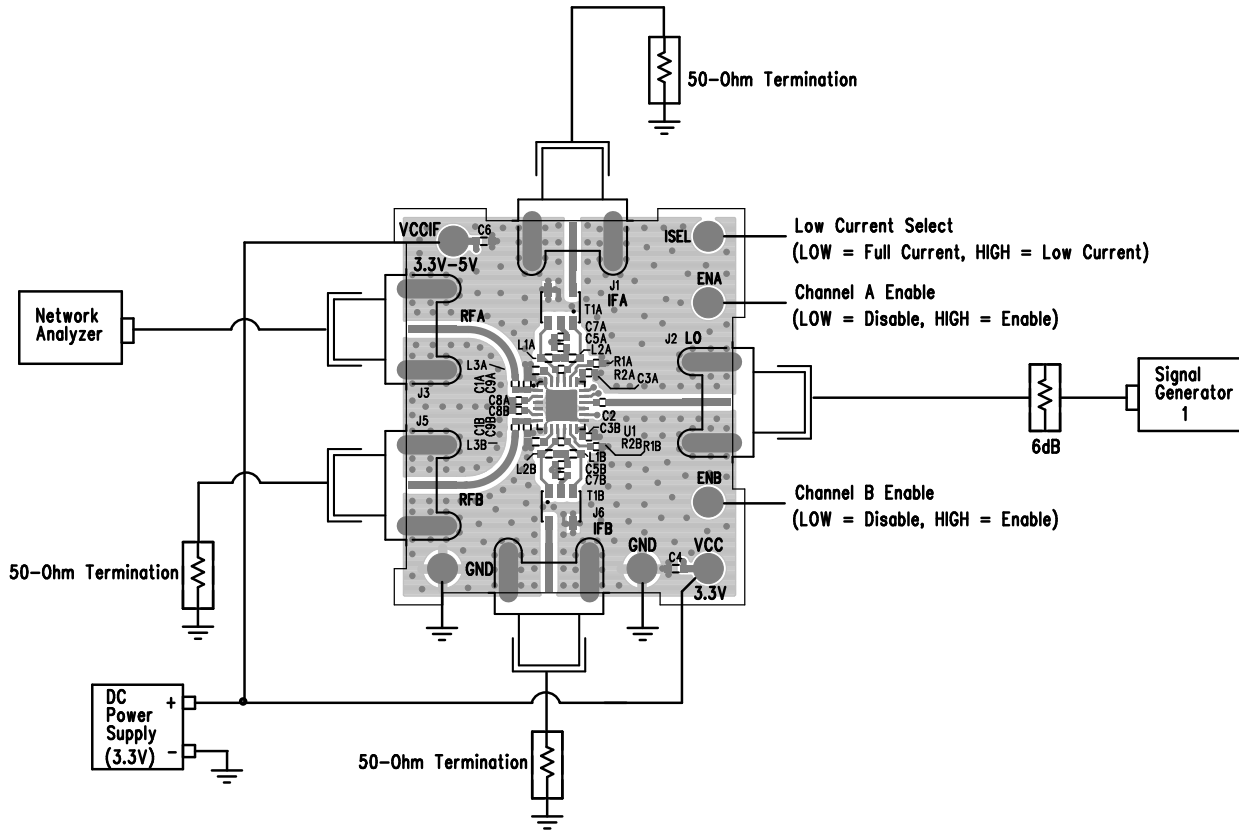
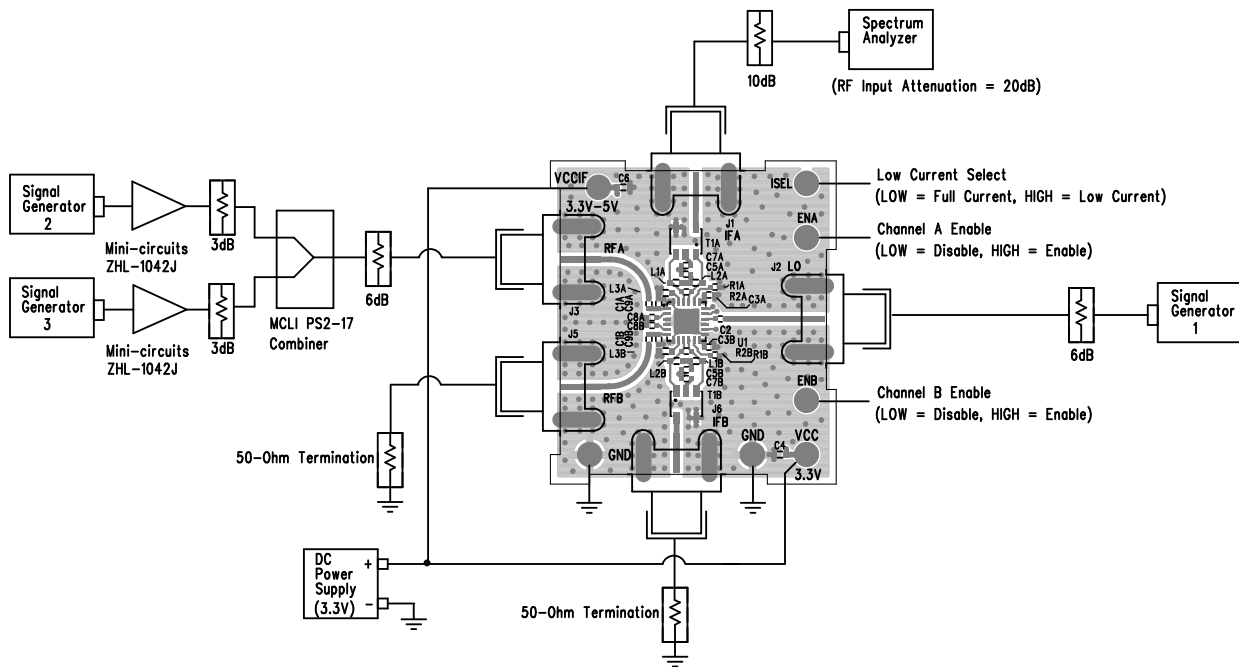

Figure 5. Proper Equipment Setup for Return Loss Measurements
Figure 6. Proper Equipment Setup for RF Performance Measurements
The LTC5592 is a dual high dynamic range downconverting mixer IC with very high input 3rd order intercept. Accuracy of its performance measurement is highly dependent on equipment setup and measurement technique. The recommended measurement setups are presented in Figure 5, Figure 6, and Figure 7. The following precautions should be observed:
The LTC5592 consists of high linearity passive double-balanced mixer cores and IF buffer amplifiers. Due to the bidirectional nature of all passive mixers the  $\text{LO}\pm\text{IF}$  mixing products, also referred to as pseudo-image spurs, are always present at the RF input, typically at a level  $12\text{dB}$  below the RF input signal. Mismatched impedances at the pseudo-image spur frequencies, such as when filters are used for SSB NF measurements, can significantly impact the linearity and noise figure measurements. To avoid interference from the pseudo-image spurs, terminate the RF input port with an isolator, diplexer, or attenuator. In the recommended measurement setups presented in Figure 6 and Figure 7, the  $6\text{dB}$  attenuator pad at the demonstration circuit's RF input serves this purpose.
Demonstration circuit 1710A-C is easy to set up to evaluate the performance of the LTC5592. Refer to Figure 5, Figure 6, and Figure 7 for proper equipment connections. The following procedures describe performing measurements on Mixer Channel A. The measurement procedures for Mixer Channel B are identical.
3. Connect all test equipment as shown in Figure 5 with the signal generator and the DC power supply turned off.
1. Connect all test equipment as shown in Figure 6 with the signal generators and the DC power supply turned off.